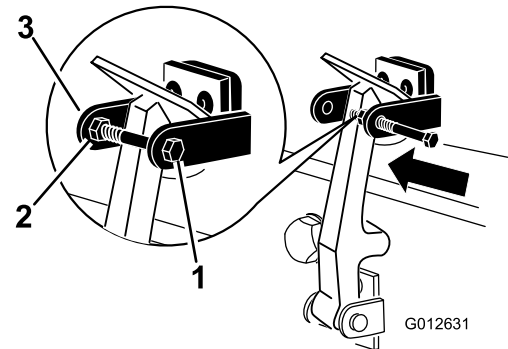

Figure 8
8. Install the bolt into the other arm of the hood-lock bracket to lock the latch in position (Figure 8).